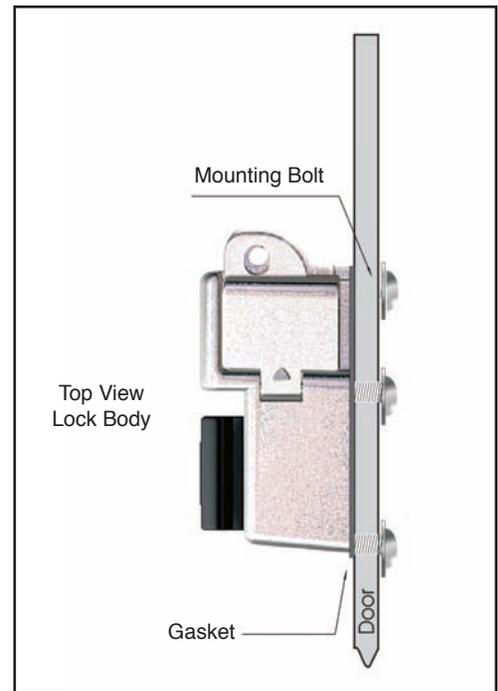

Fig. 6 - Mount Lock Body
- 9a. Start to mount the G50 body from the inside of the door using two of the 8mm lock body mounting bolts, two lock washers, and two flat washers. Attach through the upper right and lower left corners of the lock body mounting holes. (See Figure 6.)